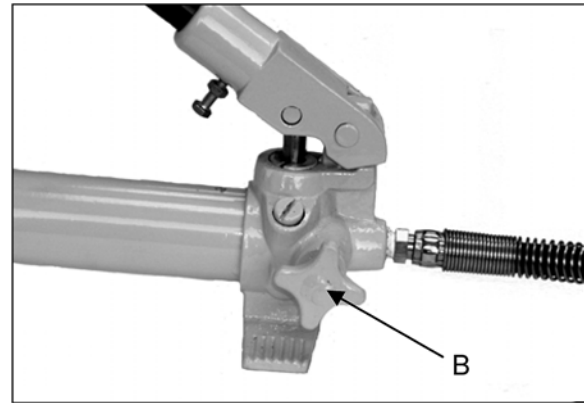

Figure 2
2. Close release valve (B, Figure 2) by turning it clockwise. Do not over tighten.